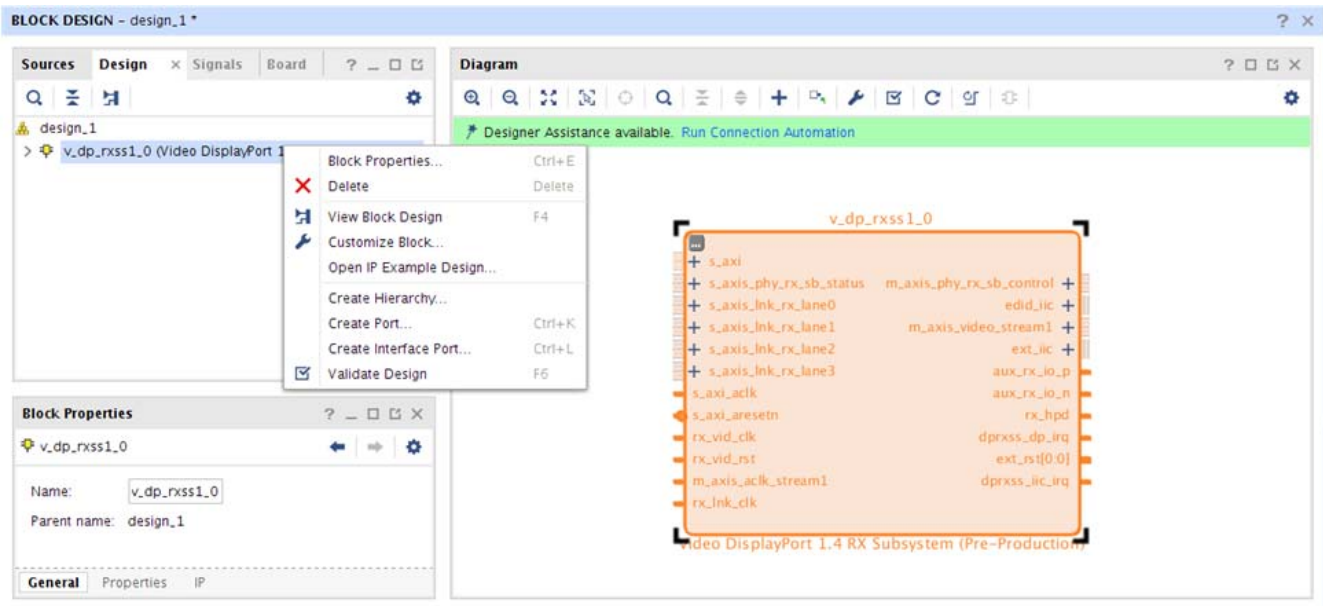

Figure 5-7: Open IP Example Design
8. Right-click the **DisplayPort Subsystem** IP under Design source in the **Design** tab and click **Open IP Example Design** (Figure 5-7).